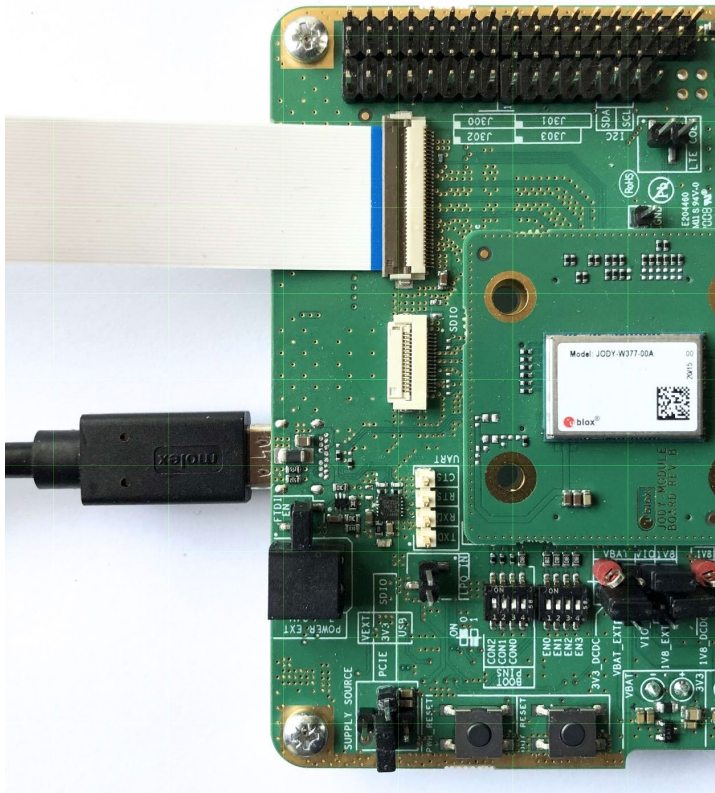

Figure 2: PCIe and USB connectors
- For PCIe connection, choose either the M.2 or the mini-PCIe adapter depending on the available connector on the host platform. First, plug the adapter into the PCIe connector on the host system and then connect it with the flat cable to the connector (J203) on the EVK, as shown in Figure 2. The PCIe interface can be used for Wi-Fi communication with the JODY-W3 series